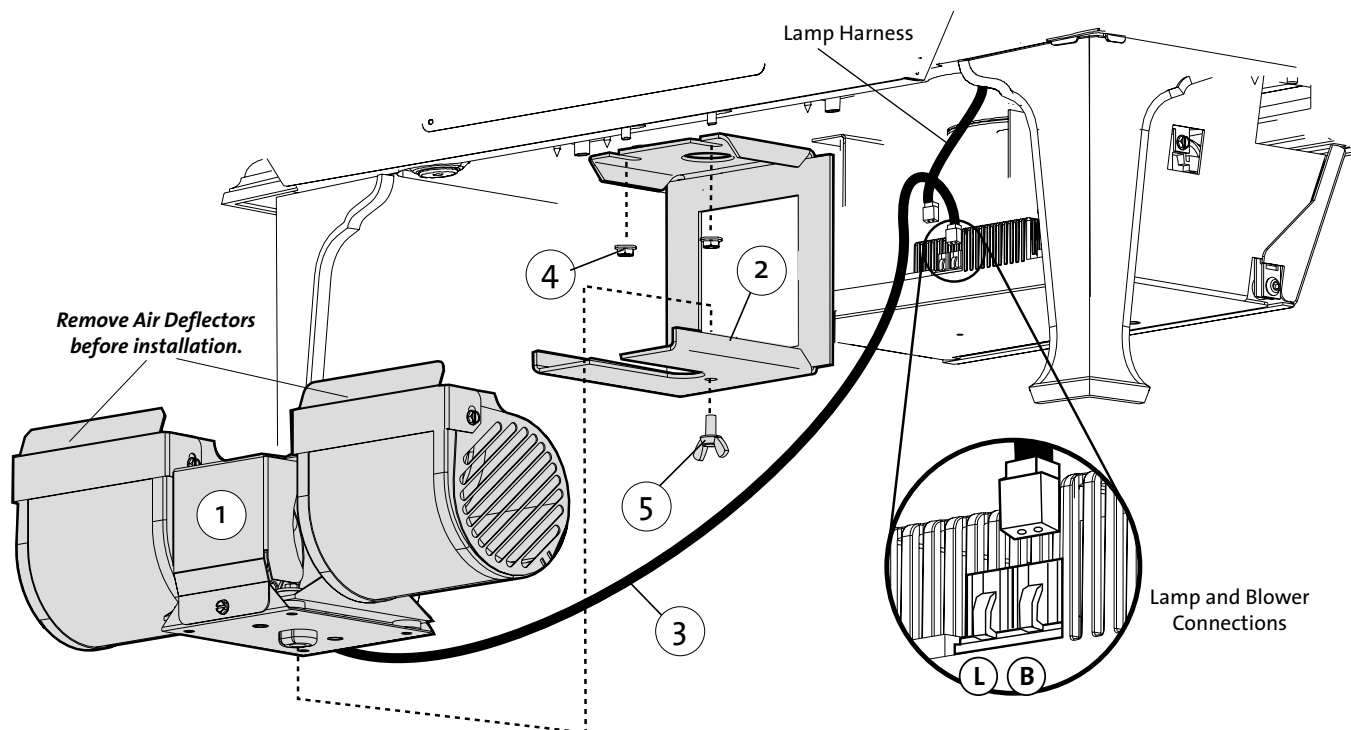

Figure 44. Blower Kit Components and Accent Lamp Connection
2. Orient the Blower Bracket (fig. 44 #2) as shown and securely attach it to the stove using the two pre-installed flange nuts already on the studs on the stove bottom. (#4).
4. Connect the Blower wire harness to terminal (B) on the IFC board as shown in fig. 44. Use the wire tie provided to take up any extra slack in the harness.